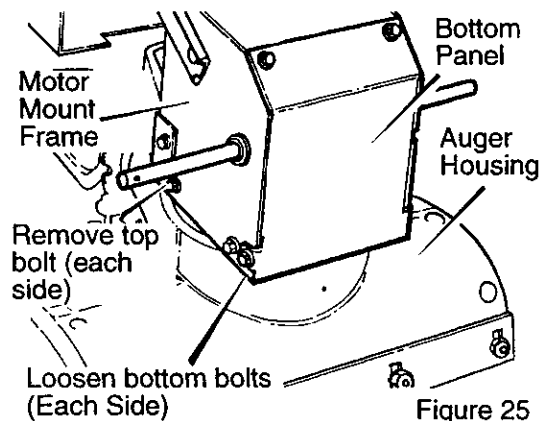

Figure 25
4. Remove the **bolts** on each side of the **motor mount frame**. See Figure 25.
12. Install the **bolts** on each side of the **motor mount frame**. See Figure 25.
10. Install the bolts on each side of the motor mount frame. See Figure 25.